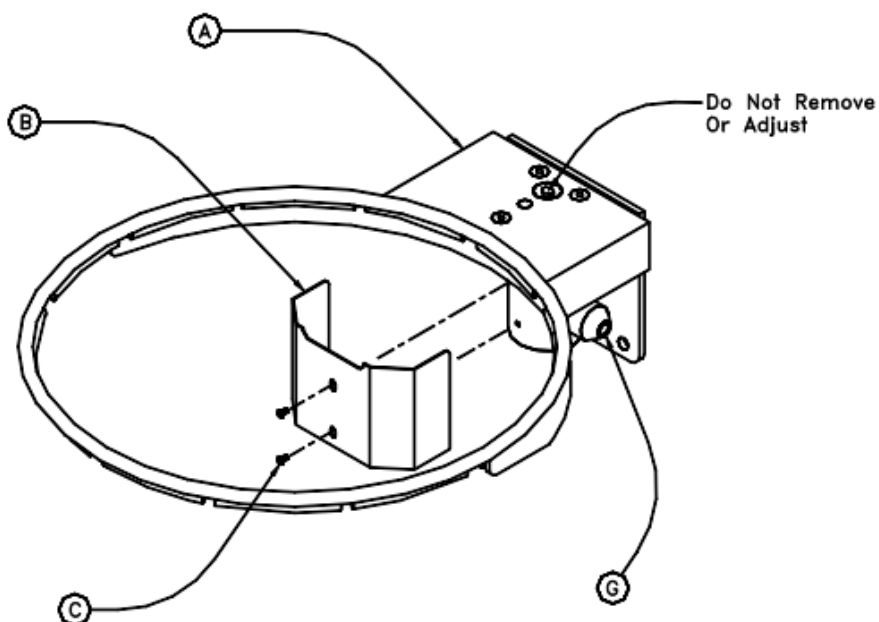

Figure 1
1. Remove the two #8-32 Machine Screws (C) and remove the Cover Plate (B). Mount the 180-Degree Goal (A) to backboard with the hardware provided in the Goal Hardware Bag (H). Make sure the goal is level then tighten the hardware. See FIGURE 1.